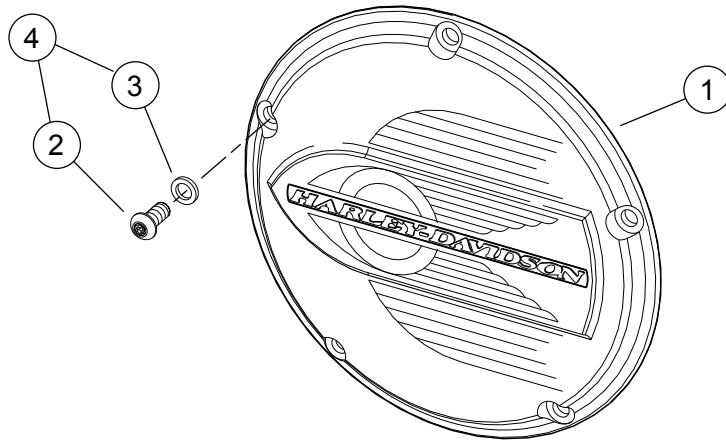

Figure 2. "Flying Wheel" Derby Cover
See Figure 2 and Table 1.
- b. See Figure 2. Place a washer (3) from the kit onto the threads of one of the **new** screws (2). Insert the screw threads through the top hole in the derby cover, and carefully thread it all the way through the triangular shaped hole in the gasket. Do not push the screw through the hole.